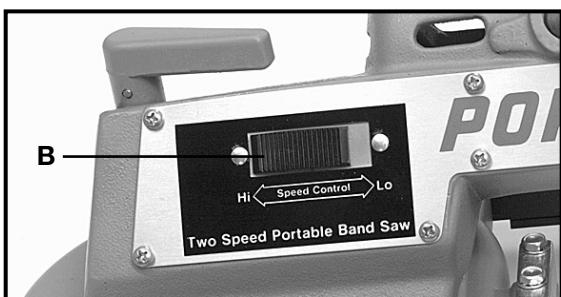

Fig. 2
The Two-Speed Band Saw is equipped with a speed changing switch (B) Fig. 2. For LOW-SPEED cutting, slide the switch bar toward "LO". For HIGH-SPEED cutting, slide the switch bar toward "HI".